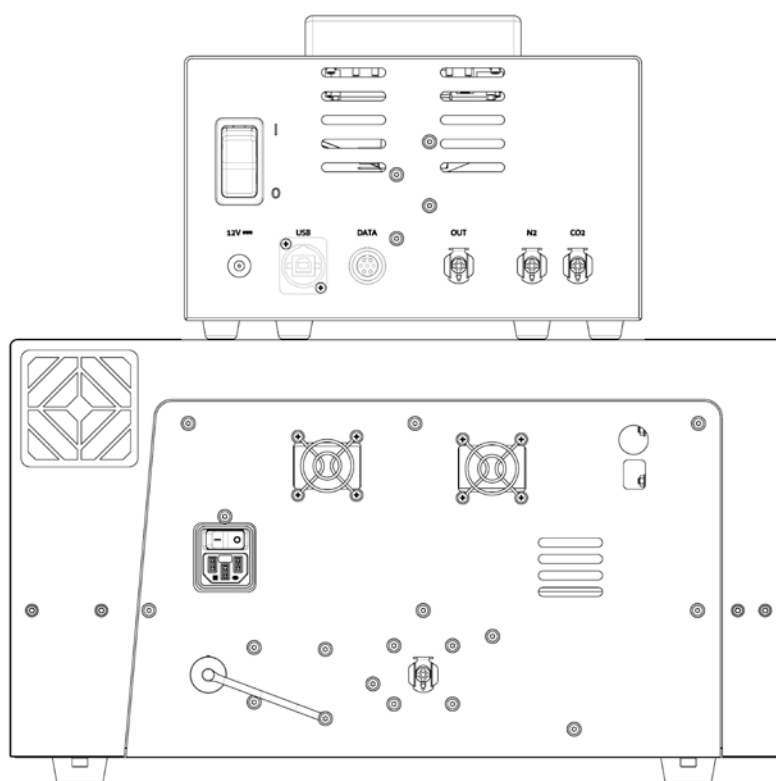

Figure 25
1. Unpack the gas control module and place it on top or near the instrument on a flat, rigid surface (see Figure 25, below).